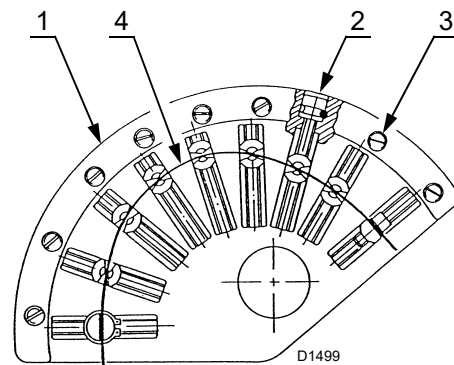

Fig. 34
act on the adjustment screws 2)(Fig. 34) after having loosened the screws 3).
Use the adjusters 2)(Fig. 34) after loosening the screws 3).
Key (Fig. 34)
- Calibrate the air delivery by adjusting the variable profile cam with the screws 2)(Fig. 34).
- With the optimal adjustment achieved, remember to lock the adjustment screws of the cam profiles by means of screws 3)(Fig. 34).